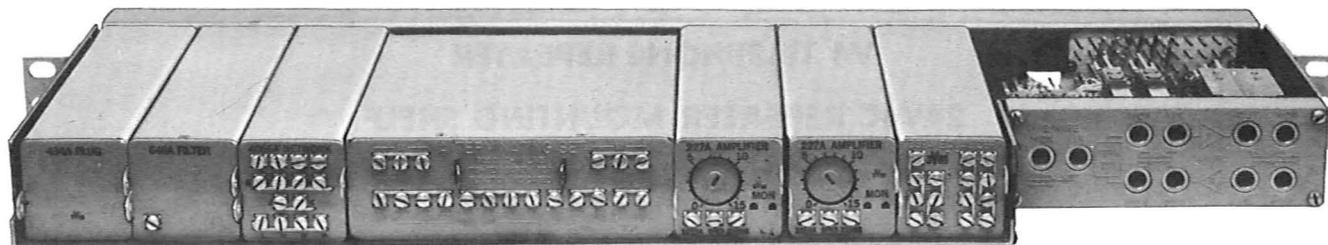
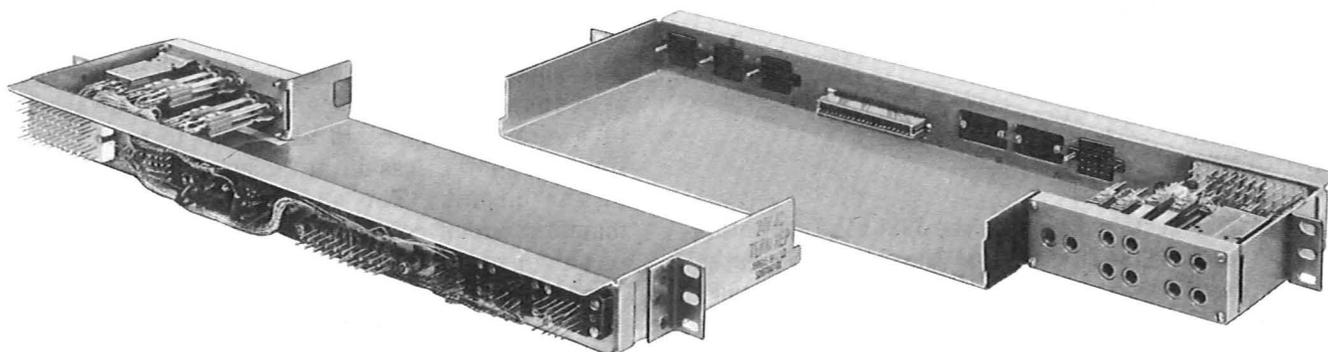

Fig. 1—24V4C Repeater Mounting Shelf—Typically Equipped
Fig. 2—24V4C Repeater Mounting Shelf—Unequipped—Front and Rear Views
2.01 Figure 1 shows the J98615BJ, 24V4C repeater mounting shelf equipped with typical V4 plug-in apparatus. Front and rear views of the unequipped shelf are shown in Fig. 2. The mounting shelf consists of seven connector sockets, a test jack field, a designation card holder, a terminal strip, and connecting circuit wiring assembled in a shelf which measures 1-3/4 inches high by 23 inches long. The 24V4C mounting shelf is arranged to mount in bays drilled for 1-3/4 inch mounting plates.